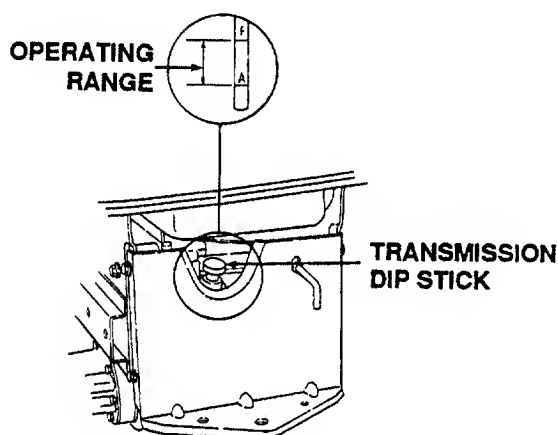

Figure 23
Check the oil level of the transmission case before each use to see that it is filled to the correct level. Before checking the transmission oil level, clean the area around the oil fill plug/dipstick to prevent debris from entering the transmission case. Always keep the oil level between the "FULL" and the "ADD" marks on the dipstick (See Figure 23). When checking the oil level, the dipstick must be withdrawn and wiped clean, then inserted all the way before being withdrawn for a true reading.
3. Remove the oil fill plug/dipstick from the oil fill port and SLOWLY pour oil into the oil fill port. Fill the transmission case until the oil level reaches the "FULL" mark on the dipstick (Refer to Figure 23).
6. Remove the oil fill plug/dipstick from the oil fill port and SLOWLY pour oil into the oil fill port. Fill the transmission case until the oil level reaches the "FULL" mark on the dipstick (Refer to Figure 23).